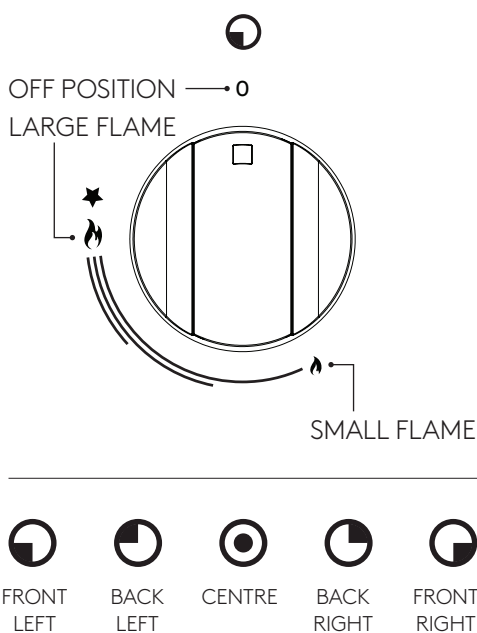

FIG. 5
- ▶ Press and turn the control knob to the large flame position. Press and hold the ignition button downwards until ignition has started (Fig. 5).
- ▶ Before switching on a burner, make sure that the knob you are going to use corresponds to the burner you wish to switch on. The relationship between knobs and burners is shown in Fig. 5.